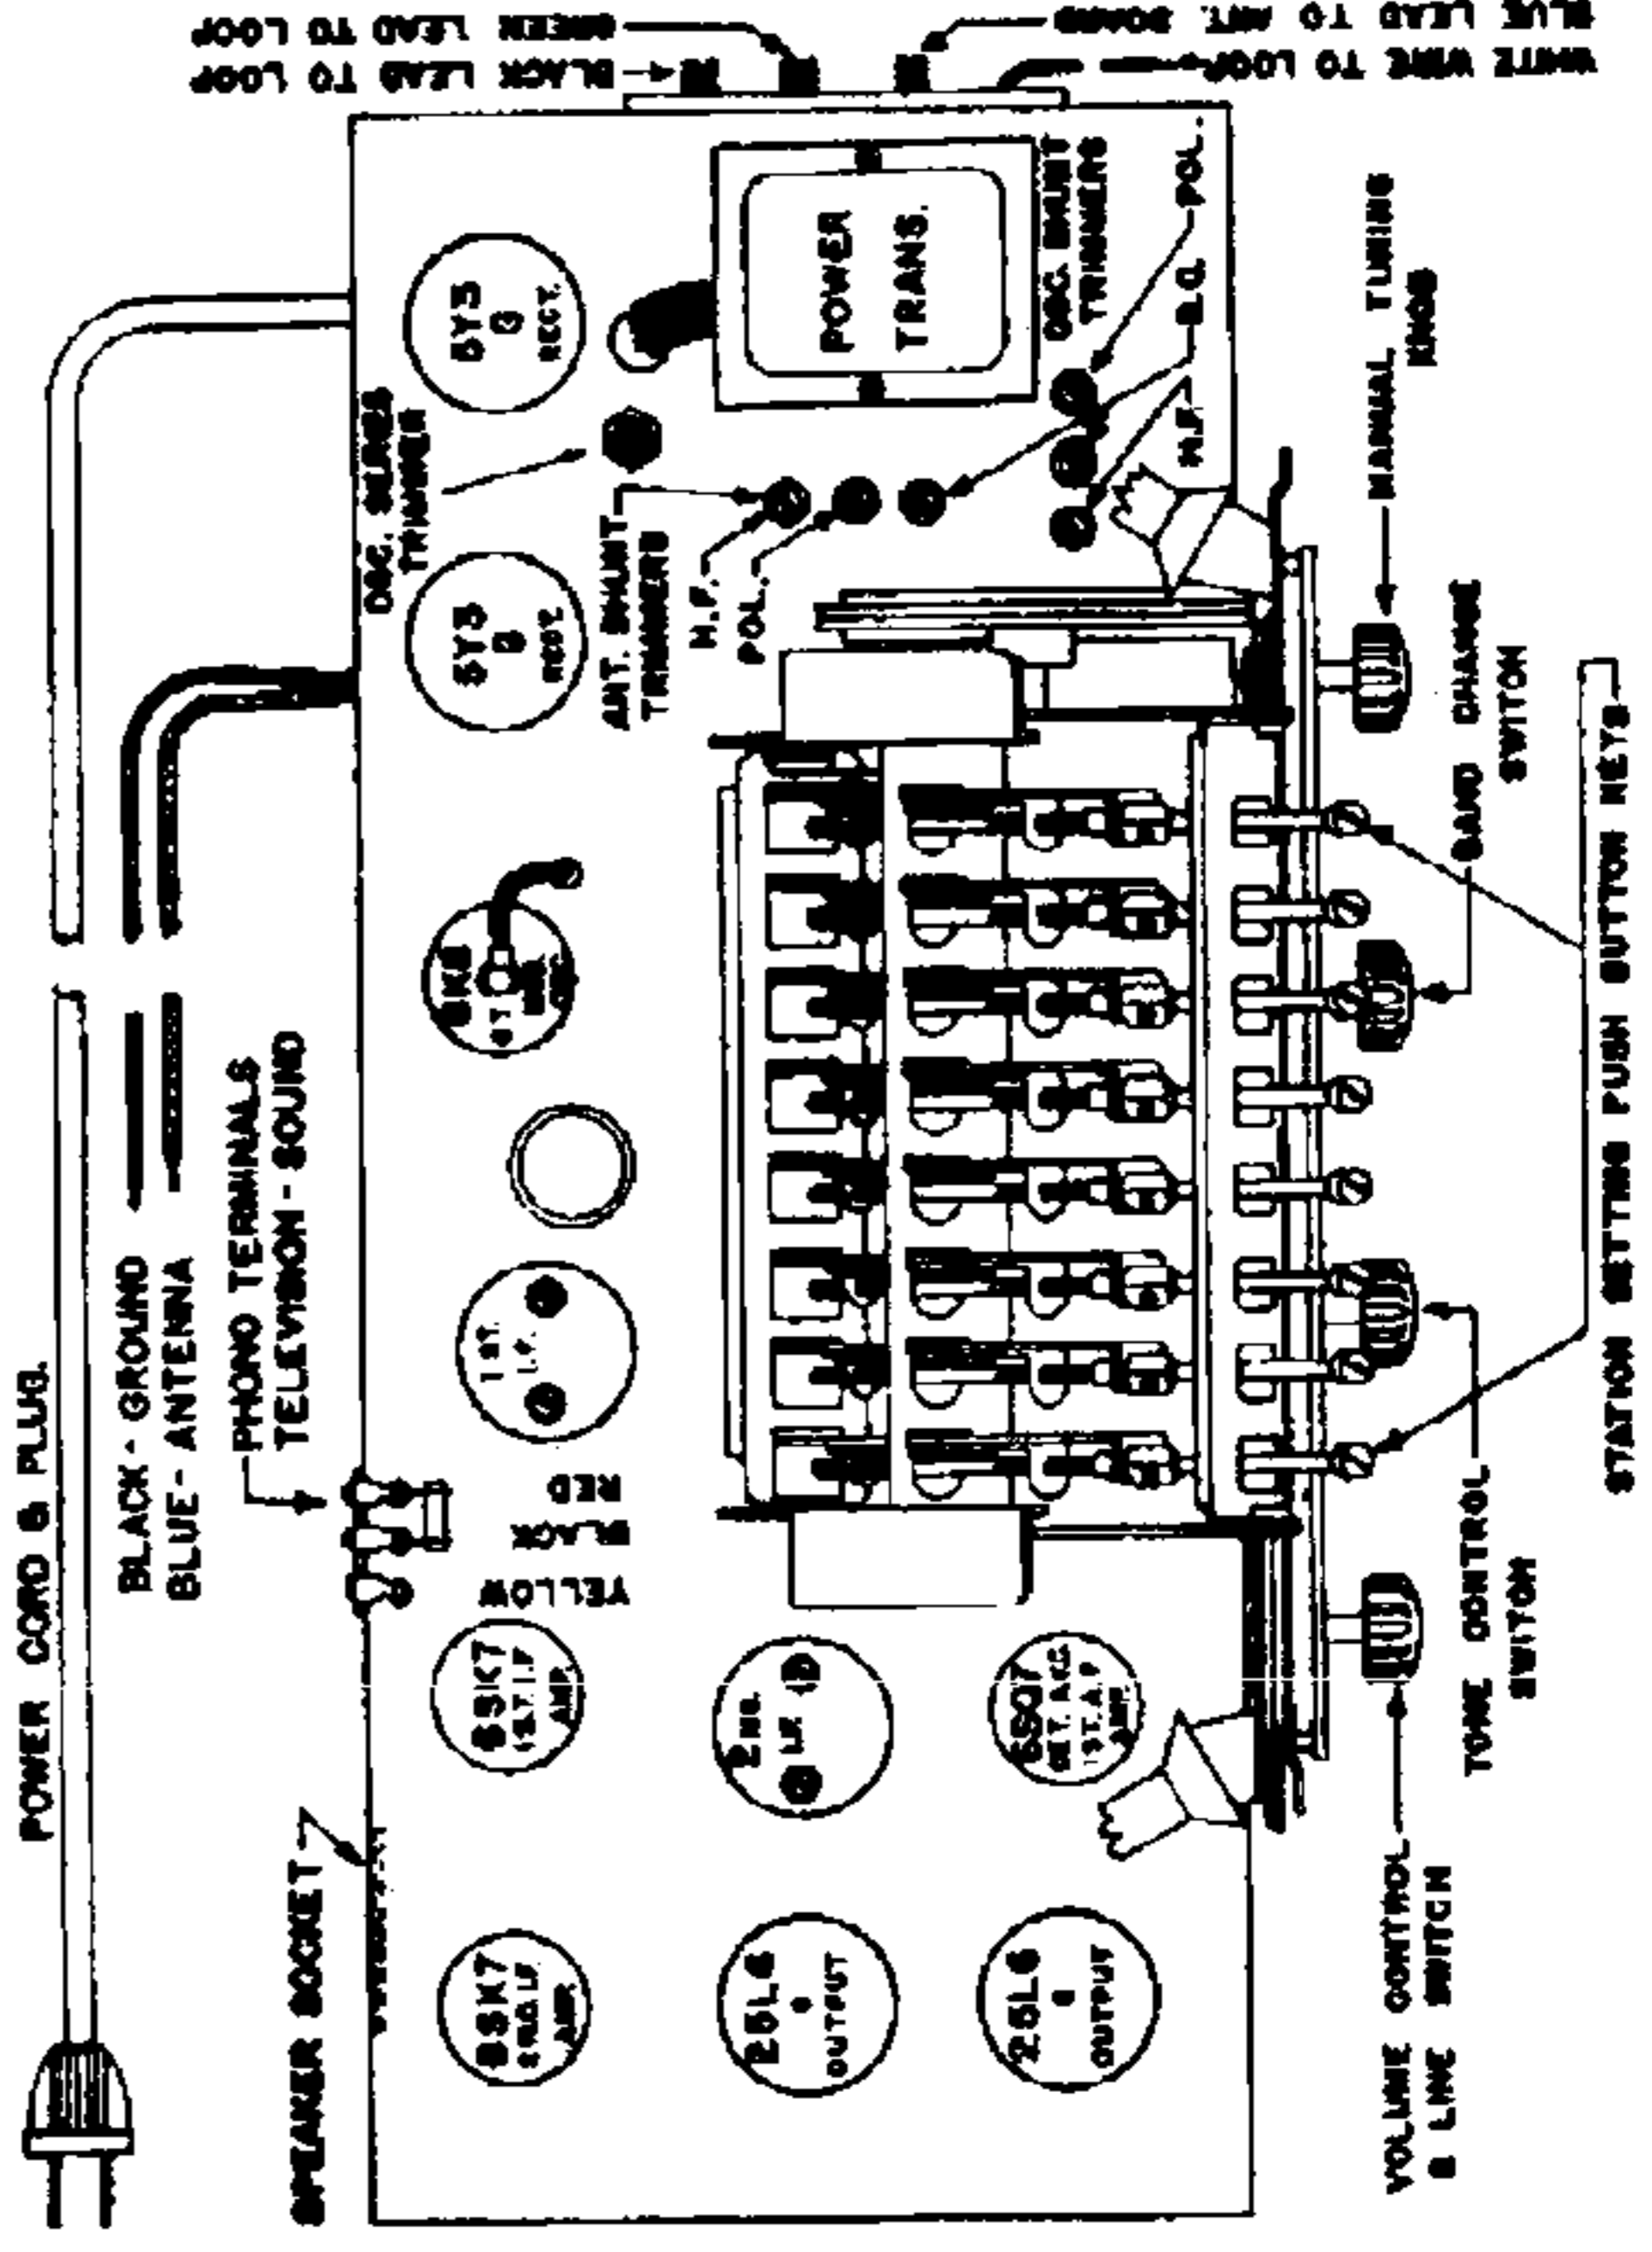

Fig. 2-B—Top View Models 819 and 1019
- (c) Adjust the two trimmer condensers on the second I-F assembly for maximum output (Fig. 2).
- (d) Adjust the two trimmer condensers on the first I-F assembly for maximum output (Fig. 2).
- (c) For models without the loop antenna adjust R. C. oscillator shunt trimmer condenser (Fig. 2) for maximum output (gang does not have to tune through this signal). For models with a loop antenna there are two oscillator shunt trimmer condensers as will be noted in figure 2. Close the front oscillator shunt trimmer all the way, then open about 1/2 turn. Proceed to tune in with the other (rear) trimmer the 1550 kilocycle signal for maximum output.
- (f) On models without the loop adjust the B. C. antenna shunt trimmer for maximum output, see (Fig. 2). On models with a loop a B. C. antenna shunt trimmer is located on top the loop antenna; adjust for maximum output.
- (1) Set signal generator to 600 kilocycles.
- (2) Tune in generator signal on receiver.
- (3) While rocking tuning condenser back and forth adjust oscillator series trimmer (Fig. 2) for maximum output. Then repeat (d) and (f) for more accurate alignment.
- (i) Adjust "Pol." oscillator shunt trimmer condenser (Fig. 2) for maximum output.
- (m) With gang open and band switch turned to the right (H. F.), adjust the H. F. (high frequency) oscillator trimmer (Fig. 2) for maximum output. Care should be taken to align the oscillator on the funda-